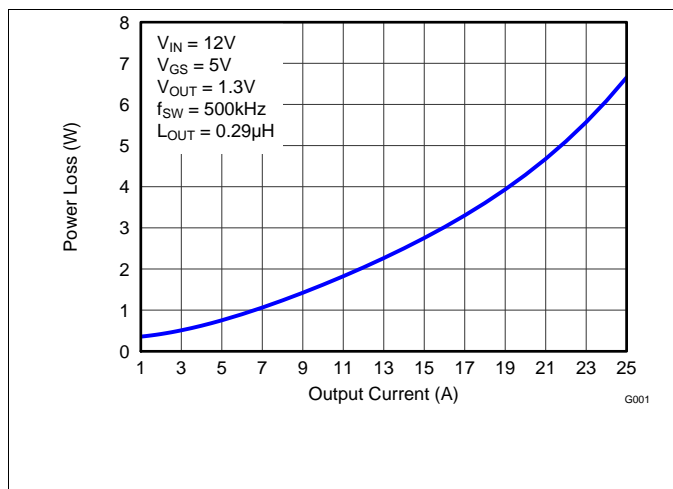
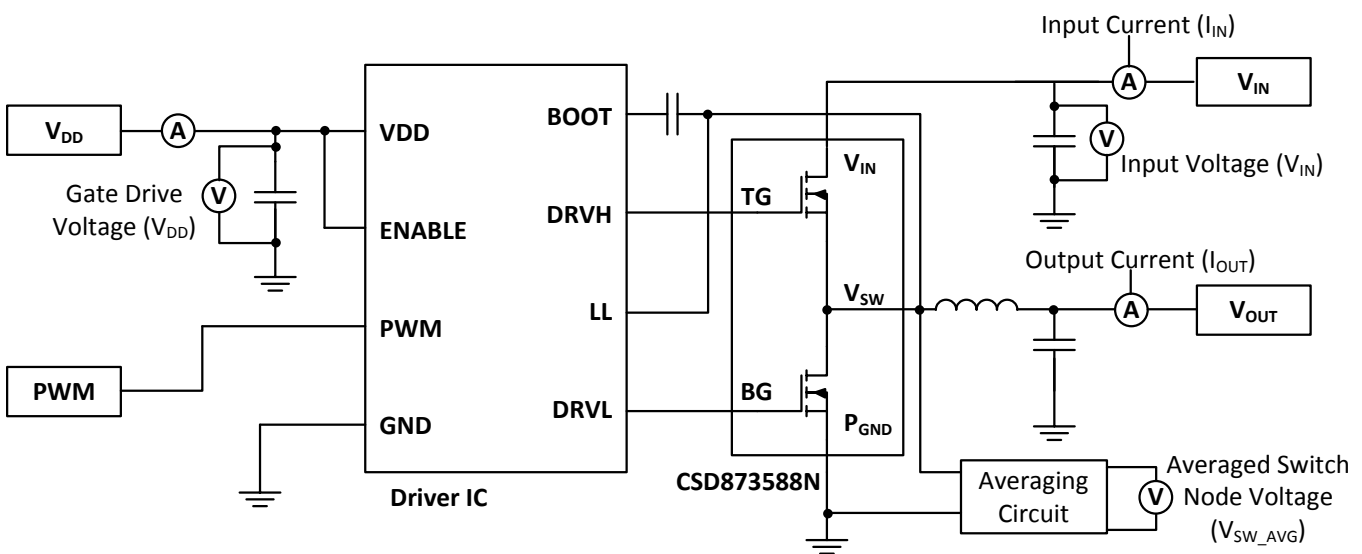

Figure 1. Power Loss vs Output Current
Figure 27. Typical Application
MOSFET-centric parameters such as  $R_{DS(ON)}$  and  $Q_{gd}$  are needed to estimate the loss generated by the devices. To simplify the design process for engineers, TI has provided measured power loss performance curves. Figure 1 plots the power loss of the CSD87588N as a function of load current. This curve is measured by configuring and running the CSD87588N as it would be in the final application (see Figure 27). The measured power loss is the CSD87588N loss and consists of both input conversion loss and gate drive loss. Equation 1 is used to generate the power loss curve.
The power loss curve in Figure 1 is measured at the maximum recommended junction temperatures of 125°C under isothermal test conditions.
- Power Loss at 15 A = 2.75 W (Figure 1)